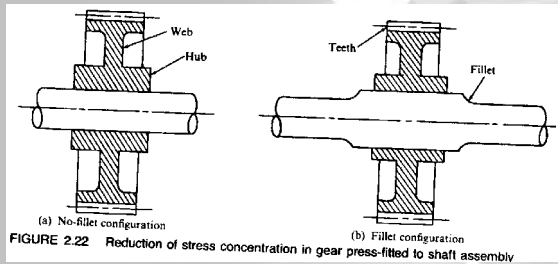

FIGURE 2.22 Reduction of stress concentration in gear press-fitted to shaft assembly
- Add shoulders for press fitted components. (Fig. 2.22)
Stress concentration (Fig. 2.22)